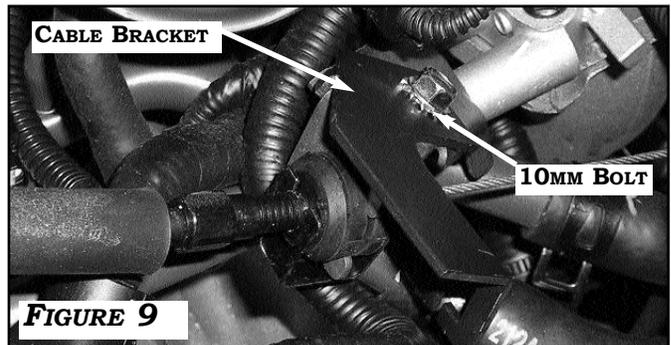

FIGURE 9
1. MOUNT CRUISE CONTROL CABLE BRACKET IN THE HOLE LOCATED ON THE VEHICLE CABLE BRACKET UTILIZING SERRATED NUT AND BOLT PROVIDED IN THE KIT. **FIGURE 9**